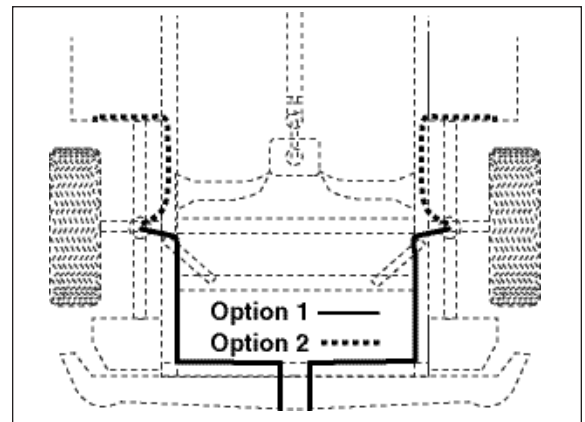

Figure 5
6. Select a location for the inflation valves in the rear bumper area or rocker panel flange ensuring that each valve will be protected and accessible with an air hose (Figure 5).